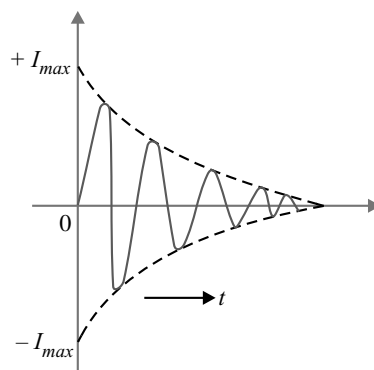

Fig. 12.3
**Waveform.** If there were no losses in the tank circuit to consume the energy, the interchange of energy between  $L$  and  $C$  would continue indefinitely. In a practical tank circuit, there are resistive and radiation losses in the coil and dielectric losses in the capacitor. During each cycle, a small part of the originally imparted energy is used up to overcome these losses. The result is that the amplitude of oscillating current decreases gradually and eventually it becomes zero when all the energy is consumed as losses. Therefore, the tank circuit by itself will produce *damped oscillations* as shown in Fig. 12.3.